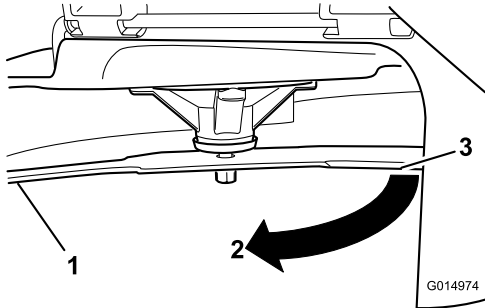

**Figure 53**
5. Measure from the tip of the blade to the flat surface (Figure 53).